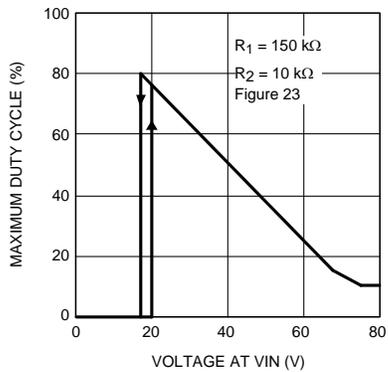

Figure 10. Maximum Duty Cycle vs. VIN (Figure 24)
**Line Voltage Maximum Duty Cycle.** The voltage at the UVLO pin, normally proportional to the voltage at  $V_{PWR}$ , further limits the maximum duty cycle at high input voltages. Referring to Figure 10, when the UVLO pin is below 1.25V, the outputs are disabled. At  $UVLO = 1.25V$  the maximum allowed duty cycle is 80% (or less if limited by the DCL resistor). As the UVLO pin voltage increases with  $V_{PWR}$ , the maximum duty cycle decreases, reaching a minimum of 10% at  $\approx 4.5V$ . Referring to the UVLO voltage, after passing through an inverting gain stage, is compared to the Ramp1 and Ramp2 signals generated by the oscillator. The output of these comparators are the MaxDC1 and MaxDC2 timing signals. These signals are provided to the two 4-input AND gates which limit the PWM pulses delivered to the output drivers.